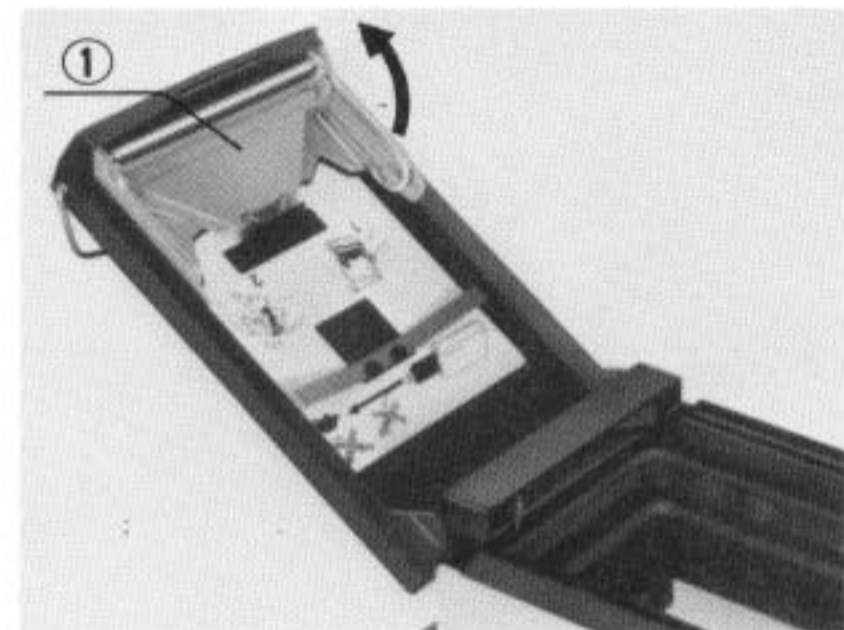

Fig. 29
- 1) To clean the rollers, lift the roller unit ① upwards and remove. (Fig. 29)